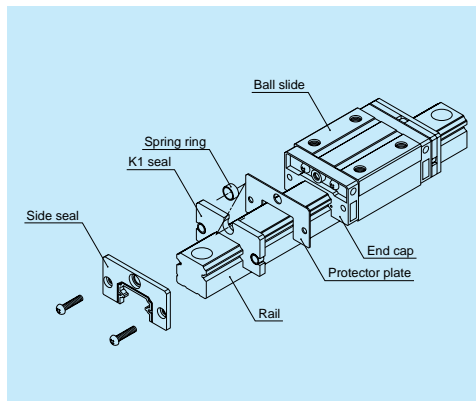

Fig. II-5-2
(1) What is K1 Lubrication Unit
- Along with the protection plate, a K1 Lubrication Unit is installed between the end cap and the end seal at both ends of the linear guide (Fig. II-5-2). K1 Lubrication Unit is already equipped at the time of delivery.